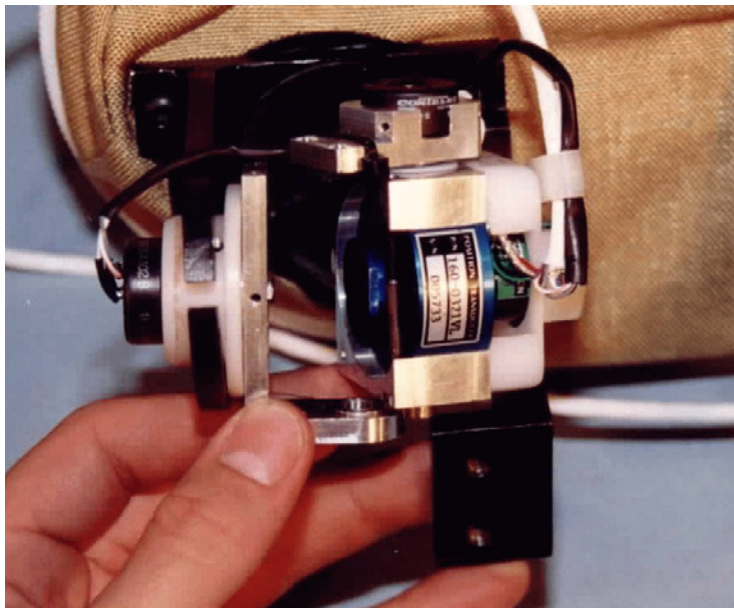

Figure 10.10- Insert DGSP telescope into access hole
9. Insert the left DGSP telescope into the left access hole in the rear of the lower abdominal bag mounting plate, as shown in **Figure 10.10**.